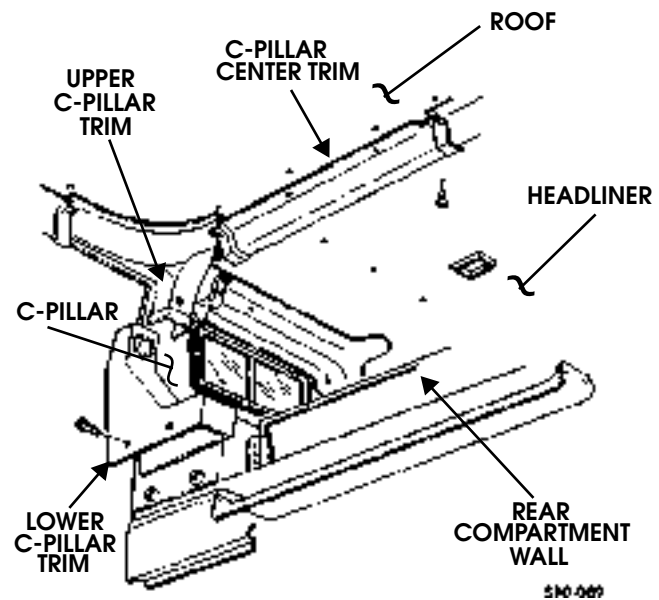

Figure 10-38: Station Wagon Interior Trim Component Identification
8. Remove screw/washer assemblies and C-pillar center trim from roof (Figure 10-38).
7. Secure lower C-pillar trim to lower C-pillar with four screw and washer assemblies (Figure 10-38).